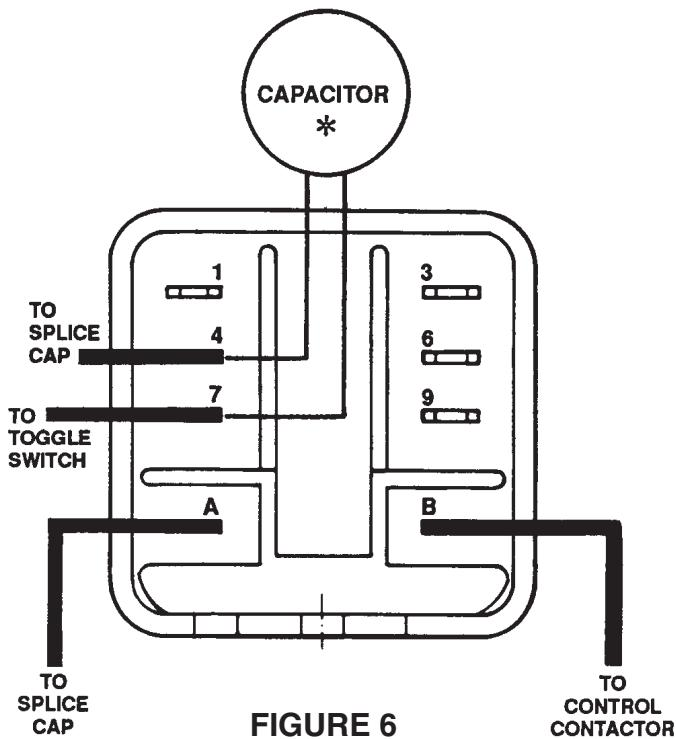

FIGURE 6
Step 5: This step is for pumps equipped with a control relay on the primary voltage side of the circuit on pumps equipped with a transformer. See Figure 6.